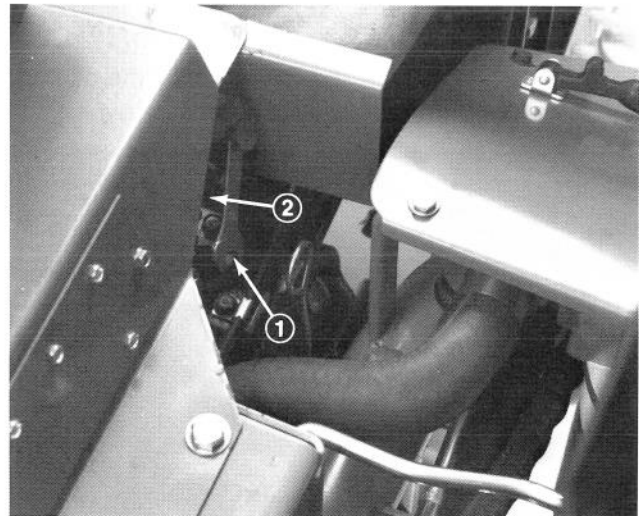

Figure 39
1. Loosen the tube connection to the No. 1 nozzle and holder assembly (Fig. 39).